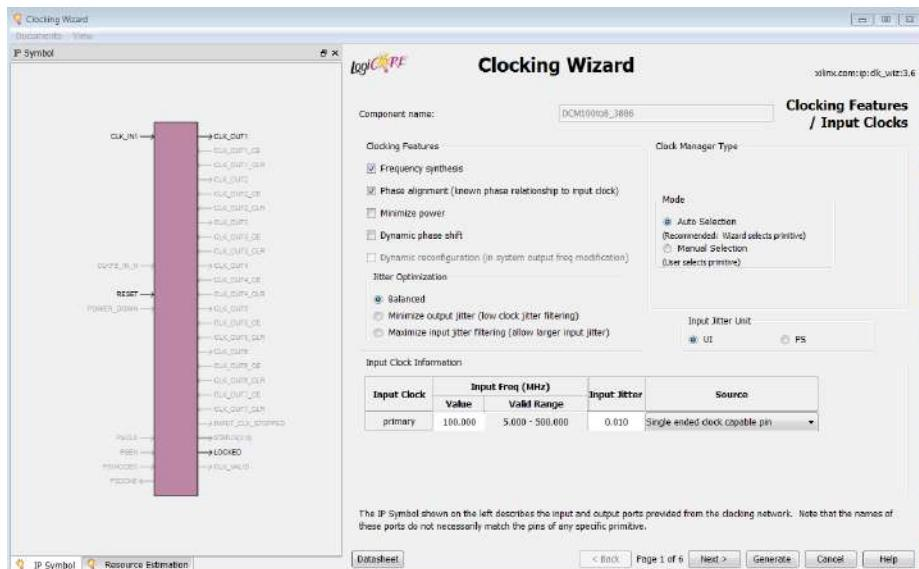

Figure 3-10 Clocking Wizard
- Select FPGA Features and Design→Clocking→Clocking Wizard, then click Next and Finish. The Clocking Wizard will open, as seen in Figure 3-10.